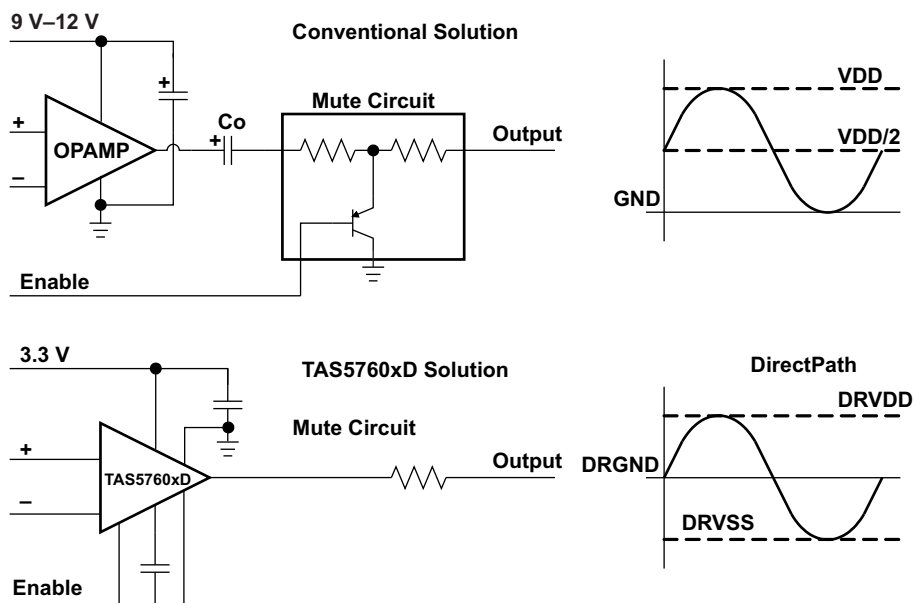

Figure 54. Conventional and DirectPath Line Drivers
Single-supply line-driver amplifiers typically require dc-blocking capacitors. The top drawing in Figure 54 illustrates the conventional line-driver amplifier connection to the load and output signal. DC blocking capacitors are often large in value. The line load (typical resistive values of 600 Ω to 10 kΩ) combines with the dc blocking capacitors to form a high-pass filter. Equation 3 shows the relationship between the load impedance (RL), the capacitor (CO), and the cutoff frequency (fc).
The DirectPath amplifier architecture operates from a single supply but makes use of an internal charge pump to provide a negative voltage rail. Combining the user-provided positive rail and the negative rail generated by the IC, the device operates in what is effectively a split-supply mode. The output voltages are now centered at zero volts with the capability to swing to the positive rail or negative rail. Combining this with the built-in click and pop reduction circuit, the DirectPath amplifier requires no output dc blocking capacitors. The bottom block diagram and waveform of Figure 54 illustrate the ground-referenced line-driver architecture. This is the architecture of the headphone / line driver inside of the TAS5760MD.